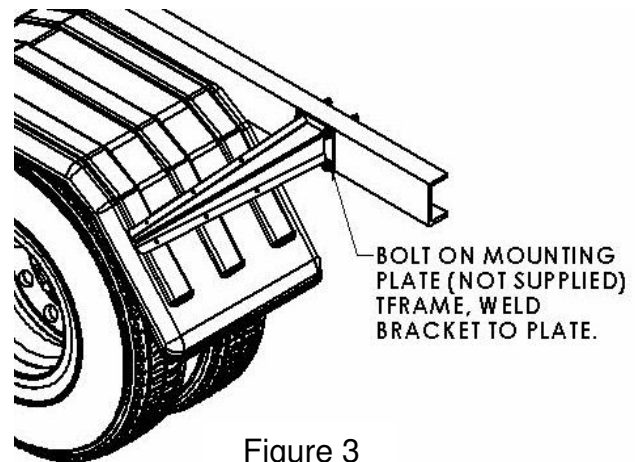

Figure 3
- B. It is possible to bolt a plate (not supplied) to the frame and weld the brackets to that plate (Figure 3). Another option is to weld the bracket directly to the frame.